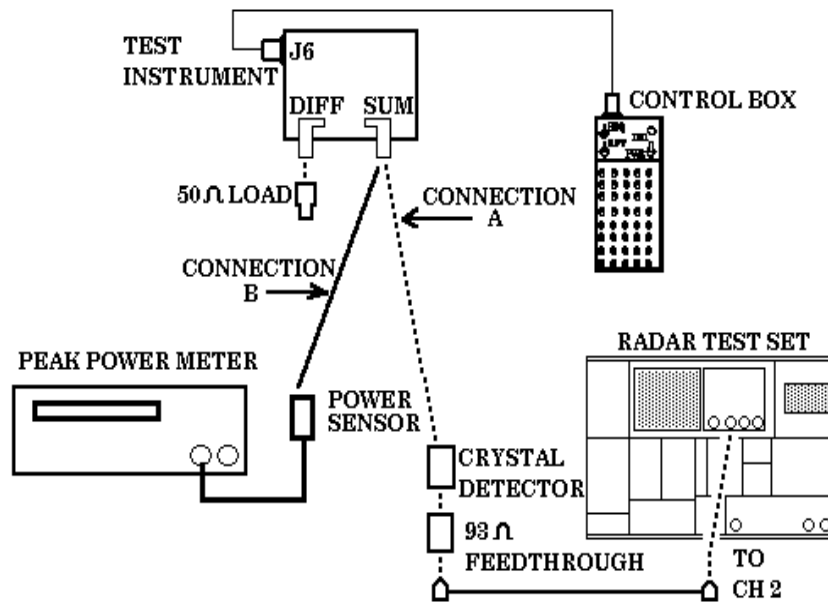

Figure 8. Transmitter power - equipment setup.
- (1) Connect equipment as shown in figure 8, CONNECTION A.
- (2) Adjust oscilloscope controls as listed in (a) through (e) below:
- (3) Set control box **PWR** switch to **ON** and ensure **RPT** and **SEQ** switches are in the **OFF** position.
(5) Connect equipment as shown in figure 8, CONNECTION B.
(6) Press TI **LAMP TEST** pushbutton .
(7) Measure peak power from SUM connector. Peak power meter will indicate between + 2 and + 6 dBm.
(8) Connect equipment as shown in figure 8, CONNECTION B, except reverse SUM and DIFF connections (50Ω load to SUM and power sensor to DIFF).